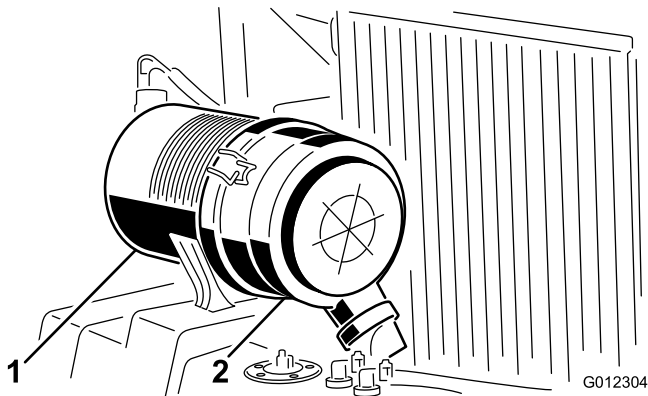

Figure 30
2. Release the latches securing the air cleaner cover to the air cleaner body (Figure 30).